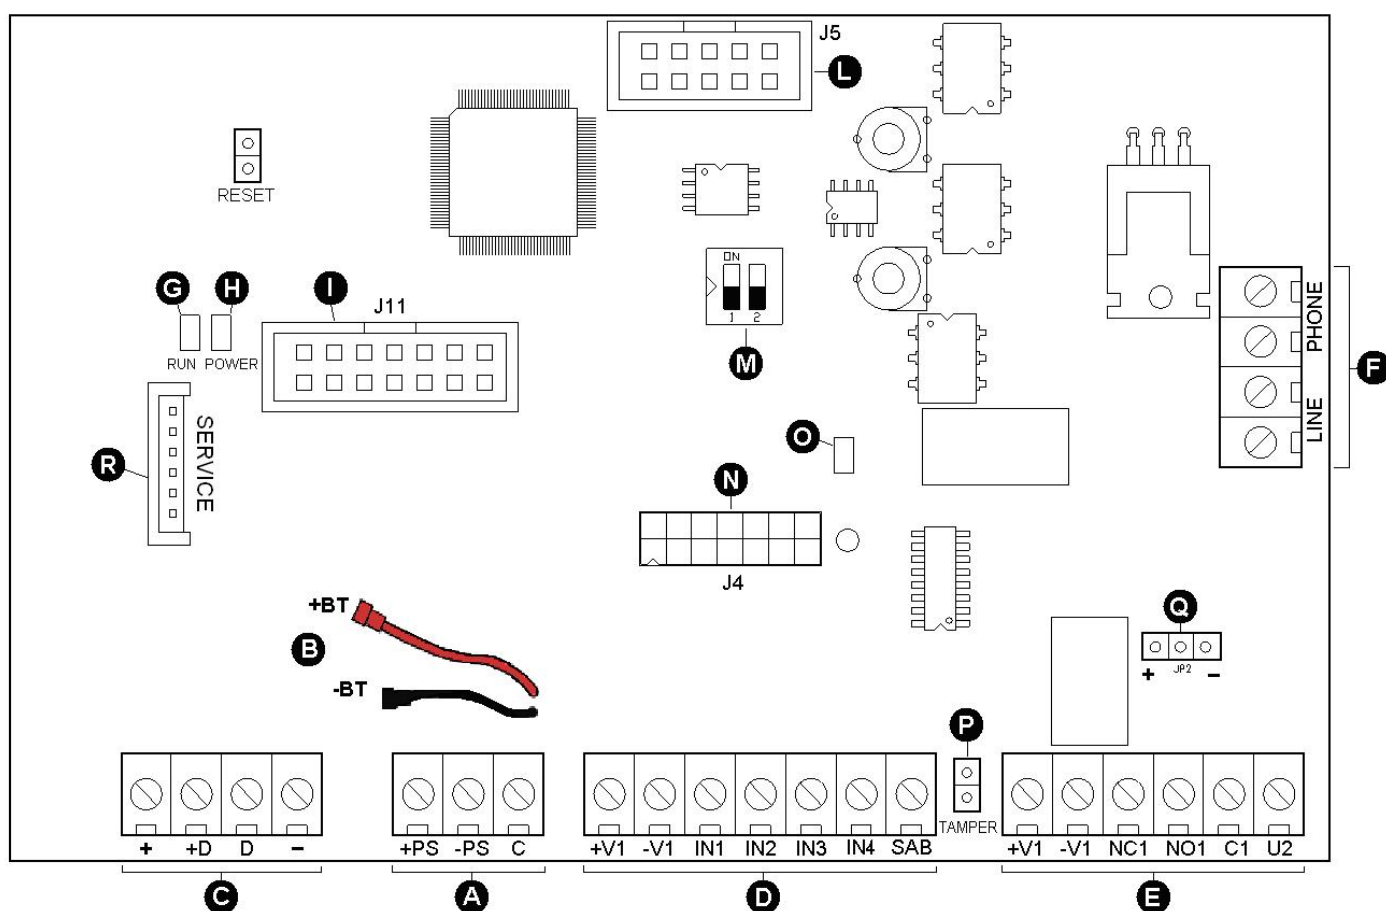

Figure 9 – Connections and control panel main parts
- Insert the pin connector into the appropriate connector (N) on the motherboard (Figure 9).